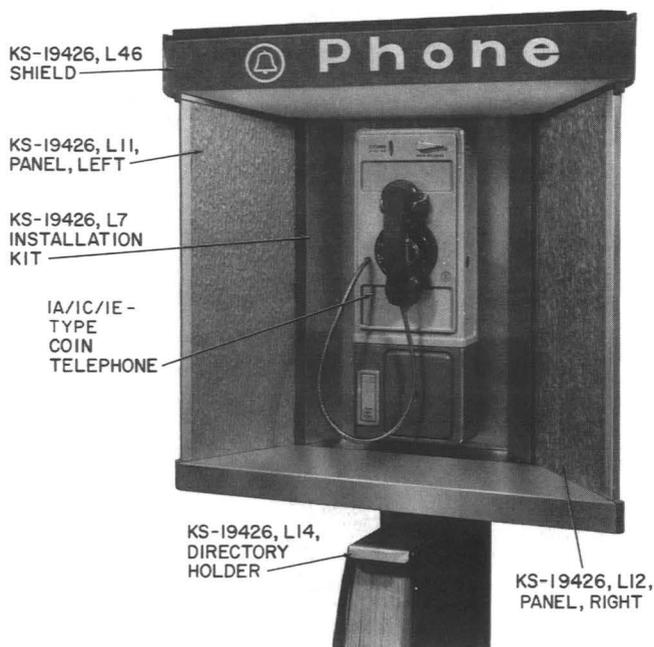

Fig. 10—KS-19426 Mounting Using 1-Type Coin Telephone Set
**2.17** The 1-type coin telephone set may be used with the KS-19426 mounting but requires a List 7 installation kit. This kit consists of mounting screws, left and right side shrouds, and associated brackets (Fig. 10).